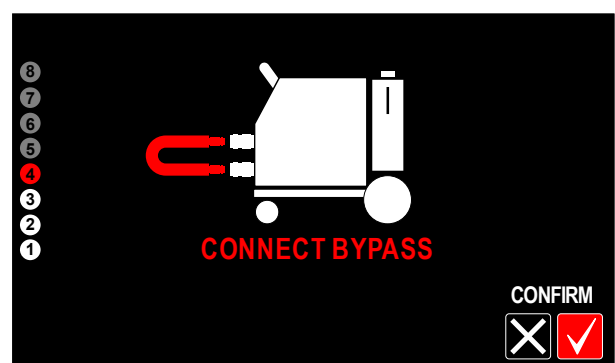

Figure 17
- When coolant will start leaking from BYPASS, connect BYPASS to red inlet socket on front of the power - (Figure 17).